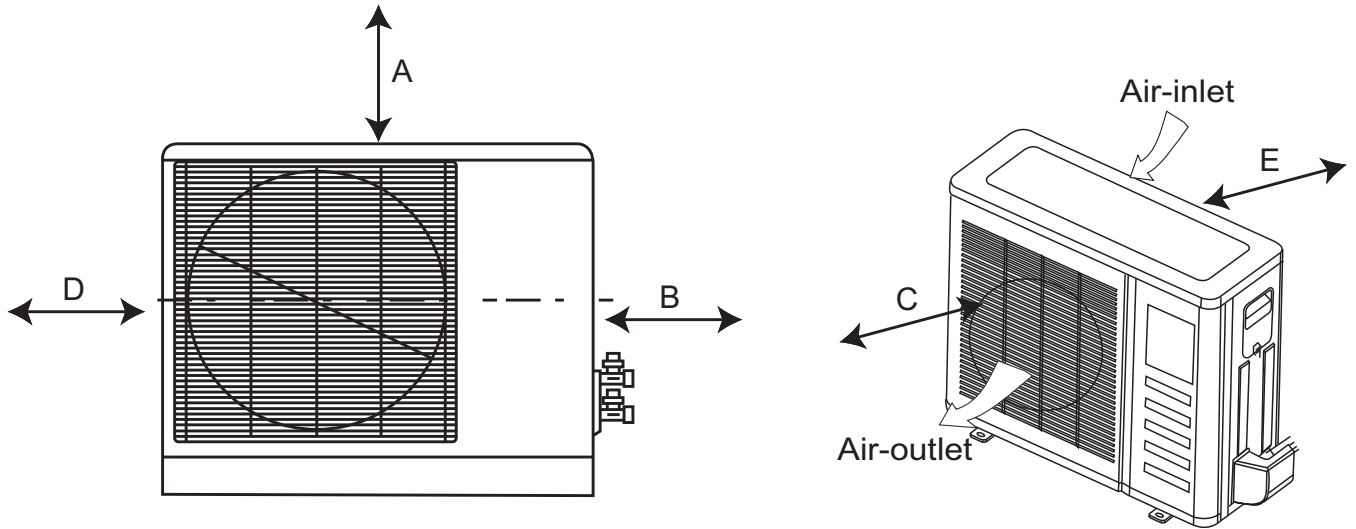

Fig. 6 – Outdoor Unit Clearance
Allow sufficient space for airflow and service of the unit. See Fig. 6 for the required minimum distances between the unit, walls or ceilings.
- A location which provides appropriate clearances (see Fig. 6).